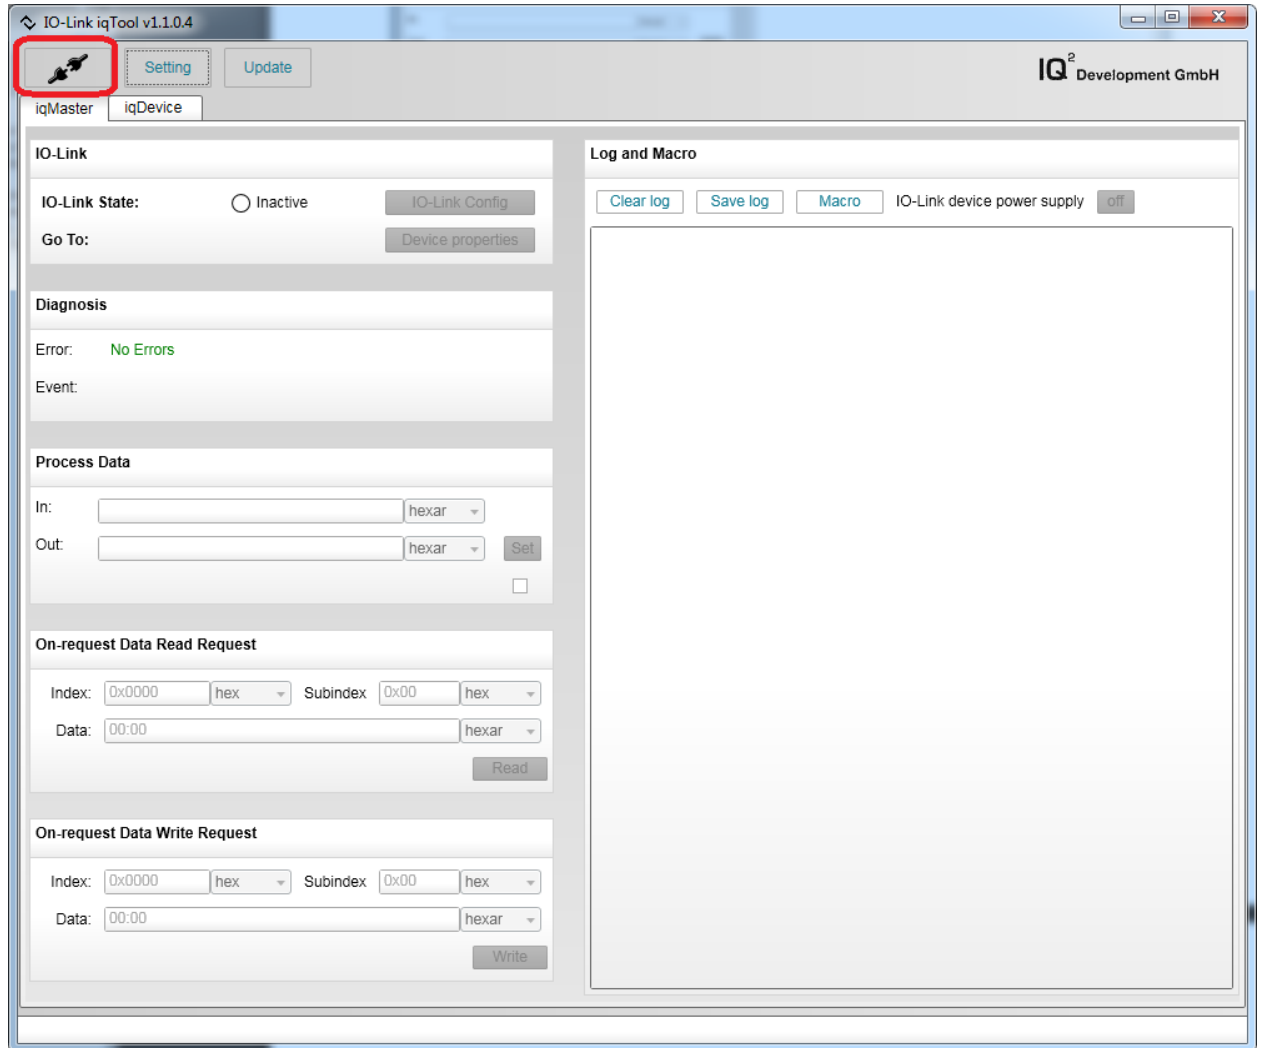

Figure 9. Press the Connect button in the iqTool.
9. Next, press the **Connect** button as shown in Figure 9.